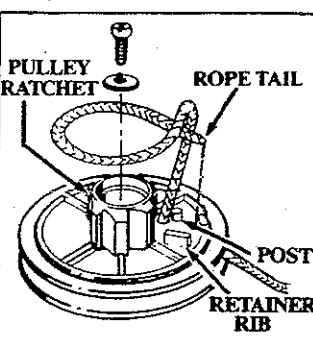

Figure 26
16. Wrap rope counterclockwise ⬅ around pulley ratchet and tuck loose end back under rope where it comes out of hole. Leave a 1/4 to 1/2 inch tail laying flat on the top of the pulley alongside the retainer rib and between the rib and post. The rope tail *must not* extend beyond the edge of the pulley. Figure 26.